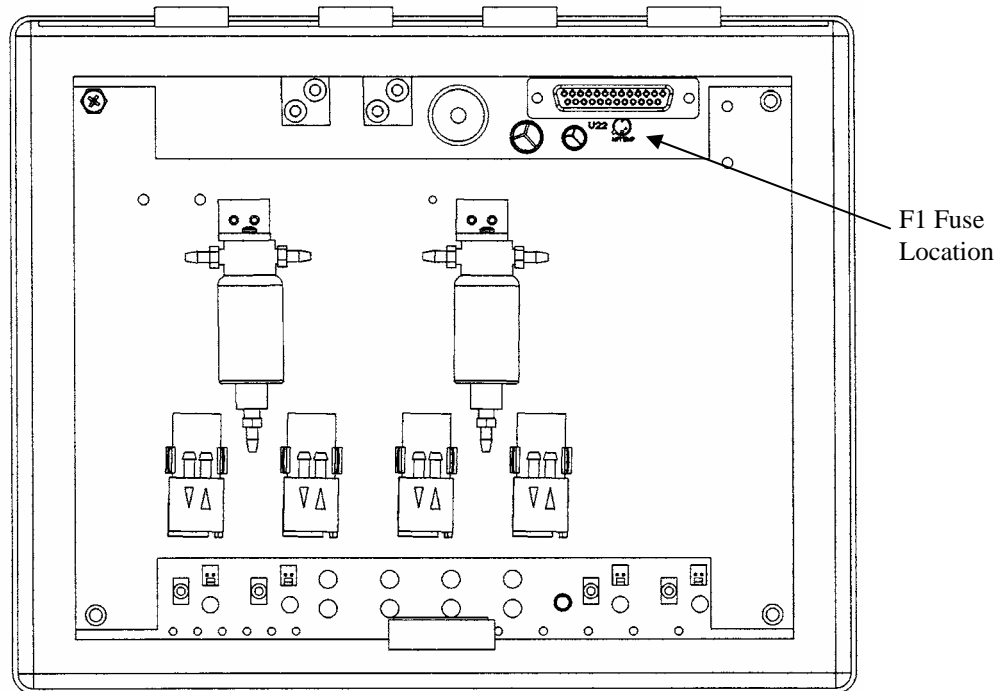

Figure 6.4 - Interface Board Fuse Location
- 5) Locate position (F1) on the motherboard. This is illustrated on Figure 6.4.